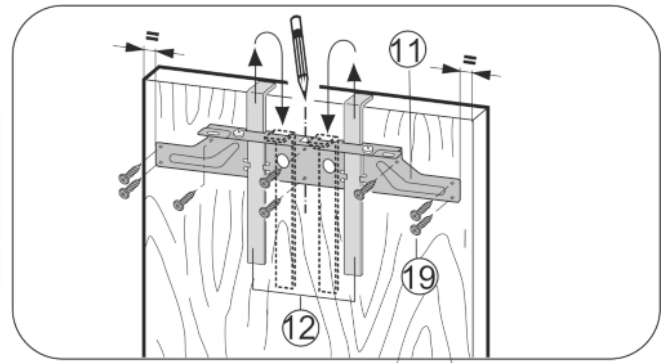

Fig. 18
- ▶ Attach fastening crosspiece Fig. 18 (11) to the inside of the unit door using the assembly aids Fig. 18 (12).
- ▶ Align the crosspiece Fig. 18 (11) in the middle of the door.*
- ▶ Secure the fastening crosspiece Fig. 18 (11) with at least 6 screws Fig. 18 (19).
- ▶ Secure the fastening crosspiece Fig. 18 (11) with 4 screws Fig. 18 (19) at the edge.
- ▶ Raise the assembly aids Fig. 18 (12) for removal, turn them and insert them into the adjacent openings.